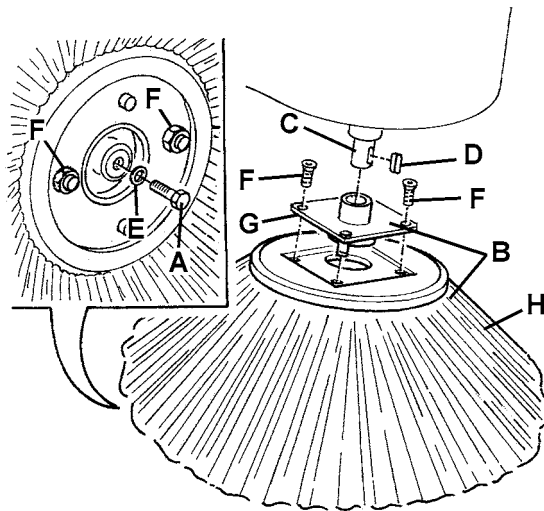

Figure 11
1. Drive the machine on a level ground and engage the parking brake with the pedal (84) and the lever (76).
2. Turn the ignition key (69) to "0".
3. Lift the side broom which has to be removed, with the lever (79) or (80).
4. Inside the side broom, loosen the screw (A, Fig. 11) and then remove the side broom with the hub (B) by disengaging it from the shaft (C).
5. At the workbench, remove the two screws (F, Fig. 11) and separate the broom (H) from the hub (G).
6. Install the new side broom (H, Fig. 11) onto the hub (G), and tighten the screws (F).
7. Install the key (D), then install the new side broom with the hub (B, Fig. 11). Install the washer (E) and tighten the screw (A).